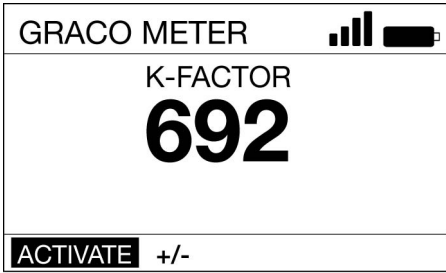

FIG. 18
5. This displays the calibration K-Factor screen (FIG. 18).